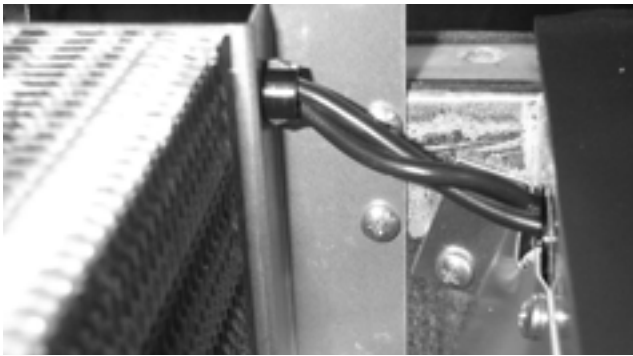

Figure 4-9
5. Remove the coil mounting screws and carefully lift the coil, only enough to gain access to the motor mounting screws (Figure 4-9).